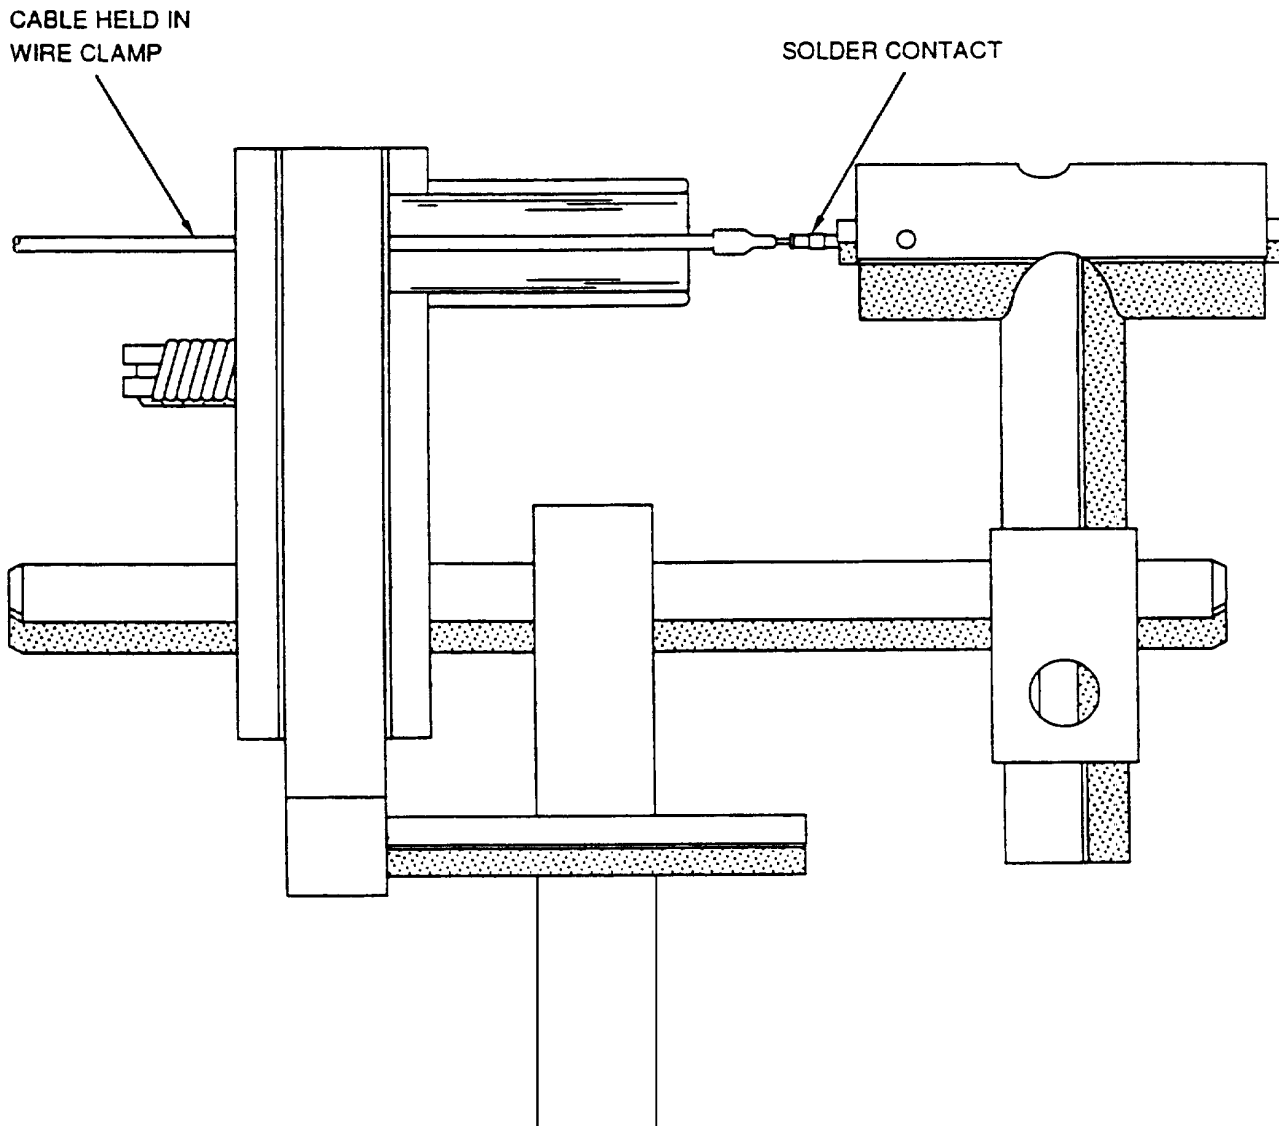

Figure 56. Solder Contact and Cable Prepared for Heating
- c. Insert contact and twisted pair assembly into holding fixture and adapter (Figure 56). End of adapter